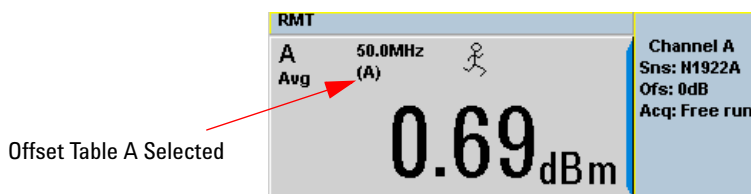

Figure 2-29 Frequency dependent offset indicator
- 4 Press **Done** again to display the measurement screen. Figure 2-29 shows which offset table is selected.